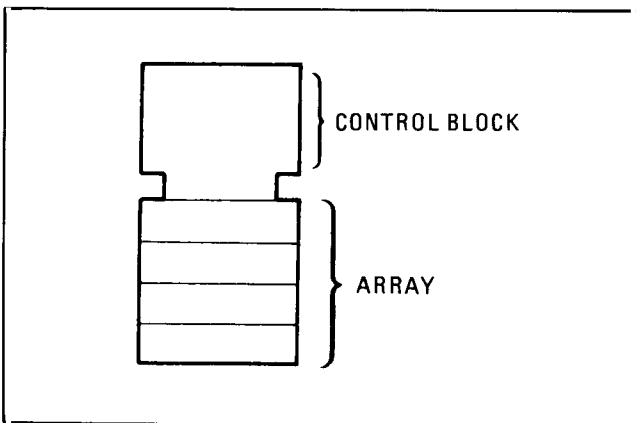
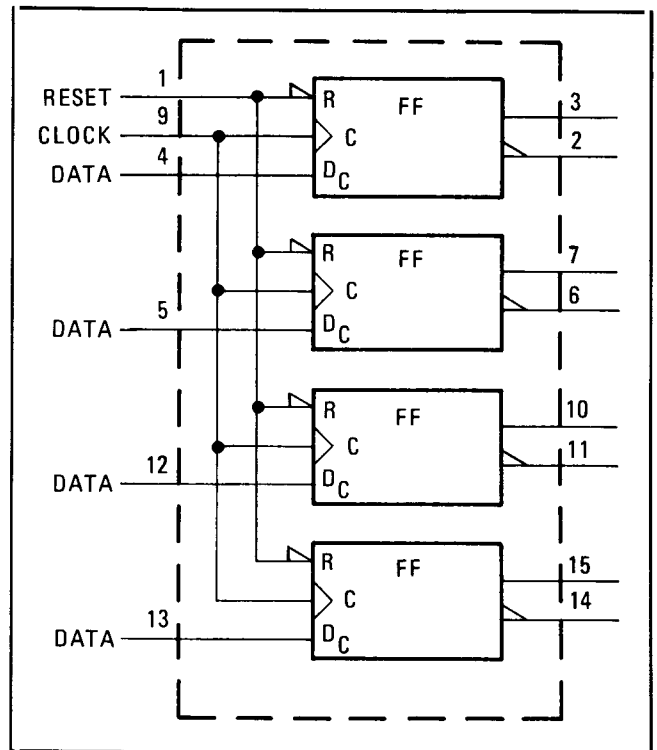
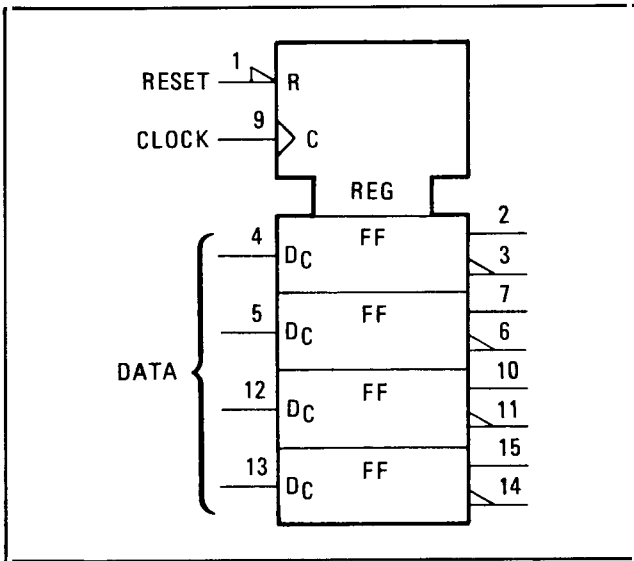

Figure 8-13. Common Control Block
Figure 8-14. Quad D-Type Latch (Individual)
Figure 8-15. Quad D-Type Latch (Combined)
**Common Control Block.** The Control block is used in conjunction with an array of related symbols in order to group common logic lines. Figure 8-13 shows how the Control block is usually represented. Figure 8-14 shows a quad D-type flip-flop with reset. This can be redrawn as shown in Figure 8-15. Note that the more complex representation shown in Figure 8-14 can be used when the flip-flops are functionally scattered around the schematic (i.e., not used as a quad unit).